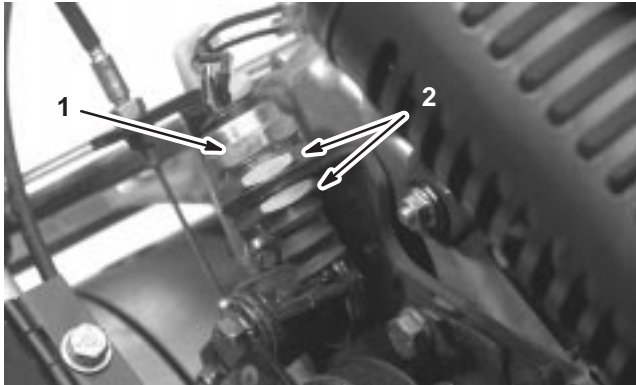

Figure 45
2. Loosen the 2 switch mounting nuts (Fig. 45) and move the switch until the switch plunger is depressed 0.12 to 0.24 in. (0.3 to 0.6 cm) (switch closed).